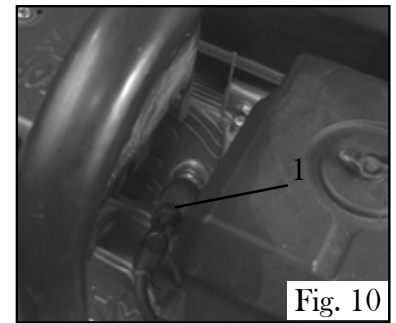

Fig. 10
1. Pull on the spark plug boot to remove it (Fig. 10 - 1).